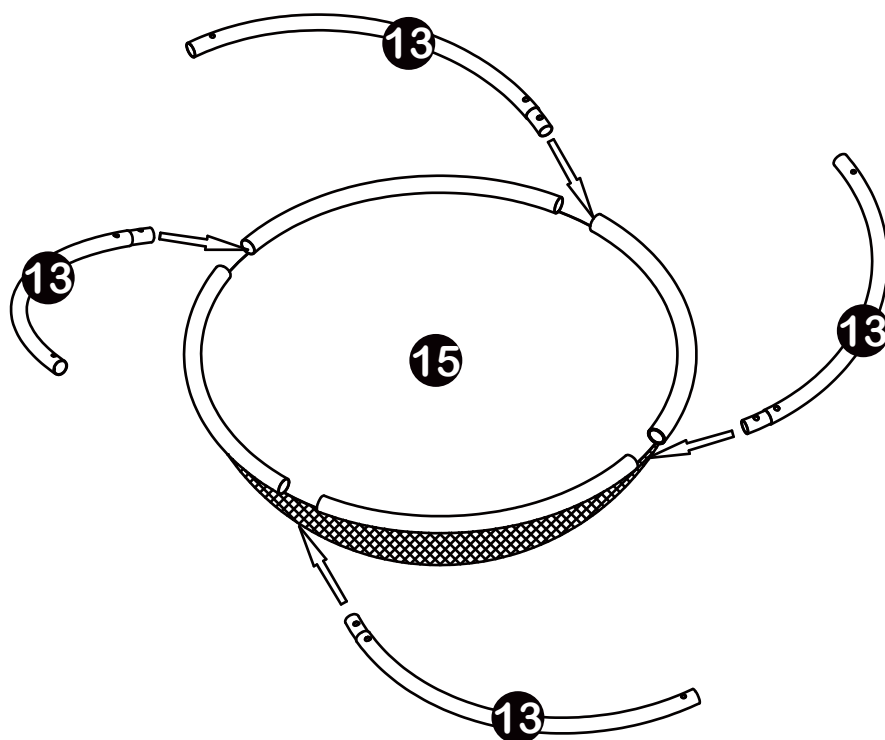

Figure 4
Insert Curved Bars (13) into the sleeve on the edge of the Fabric Saucer (15) as shown in Figure 4.